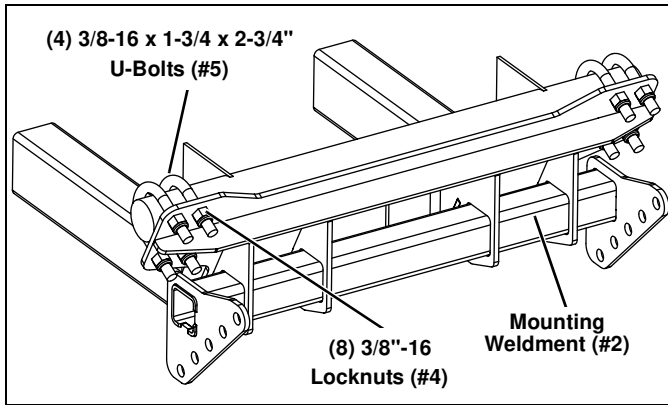

Figure 5
4. Attach the top of the Mounting Weldment (#2) to the tubular frame section with (4) 3/8"-16 x 1-3/4" x 2-3/4" U-Bolts (#5) and (8) 3/8"-16 Locknuts (#4). (See Figure 5.)